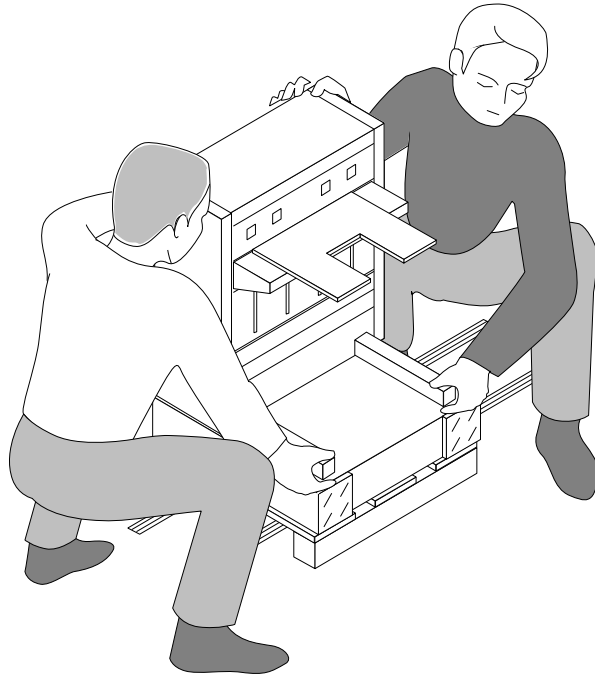

Figure 4-19 Unpacking the HCO
2. Use two people to carefully lift the HCO free from the box and place it on the floor. See Figure 4-19.